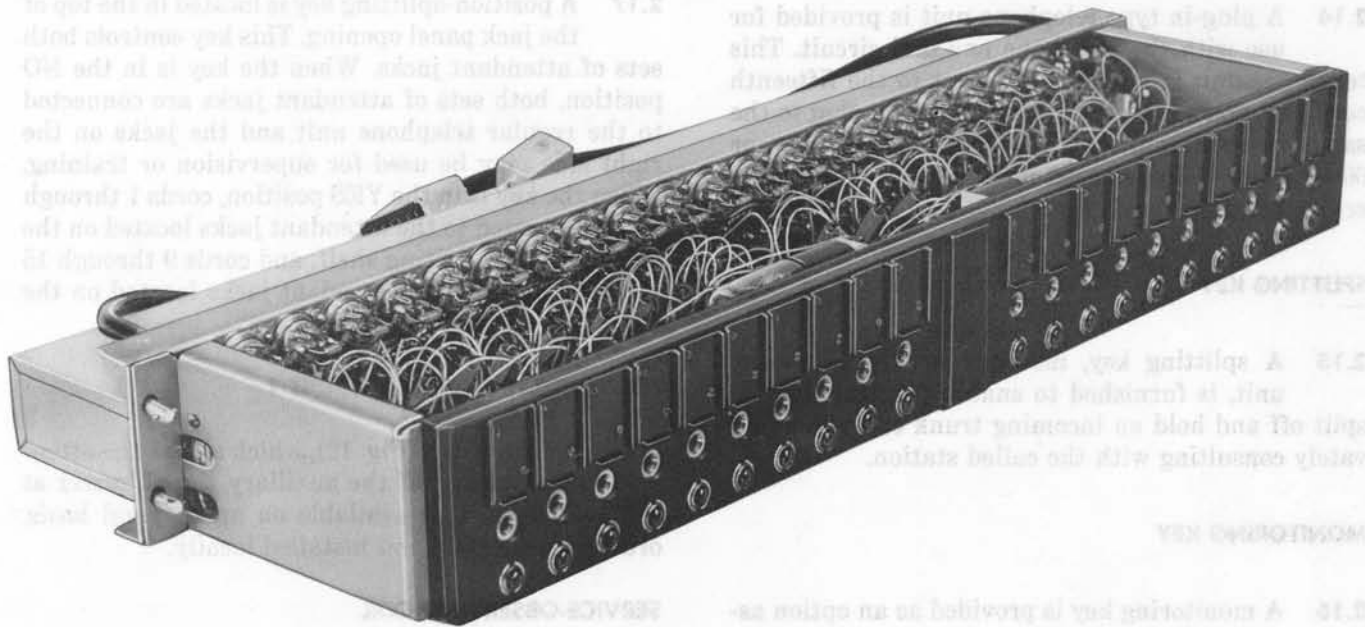

Fig. 3—J59023G-1 (MD) Electromechanical Secretarial Line Unit
2.06 The electromechanical secretarial line equipment is furnished in self-contained units of 20 line circuits per unit. ◀This electromechanical line equipment is rated (MD) and is replaced by the solid-state secretarial line (YW1) circuit pack.◀ A maximum of five secretarial line units can be mounted in one switchboard position. The ◀electromechanical◀ secretarial line unit (Fig. 3) is ordered separately and installed locally. Unequipped ◀electromechanical◀ secretarial line unit spaces in the face of the switchboard shall be covered with line unit blank P-34A583 ◀(comcode 813415833),◀ which is also ordered separately and installed locally. Each ◀electromechanical◀ secretarial line unit is 3 inches high and extends the full width of the switchboard jack panel opening. The ◀electromechanical◀ secretarial line units are installed and removed from the rear of the switchboard and connected to the outgoing terminal strip through a plug mounted on each